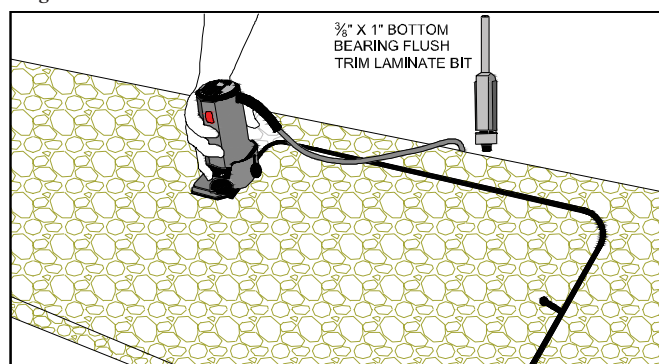

Figure 11B
- Use a laminate trim router with a  $\frac{3}{8}$ " bottom bearing flush trim bit, route around the inside of the sink cutout. (FIG. 11B)